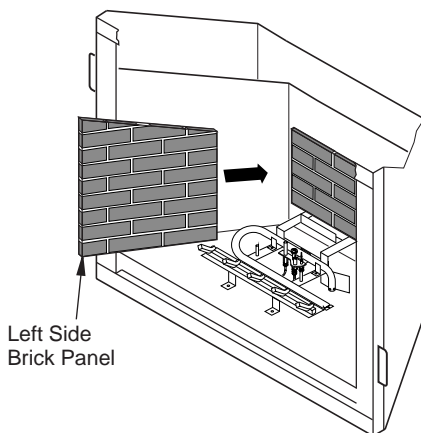

Figure 39 - Installing Side Brick Panels
6. Install left side brick panel by sliding it between grate and side of firebox (see Figure 39).